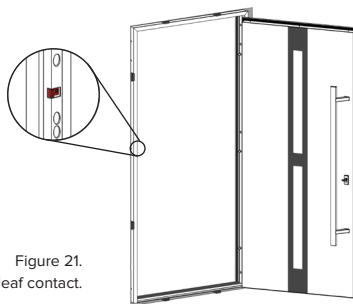

Figure 21.
3.17. Adjustment of adjoining of the leaf contact (figure 21):